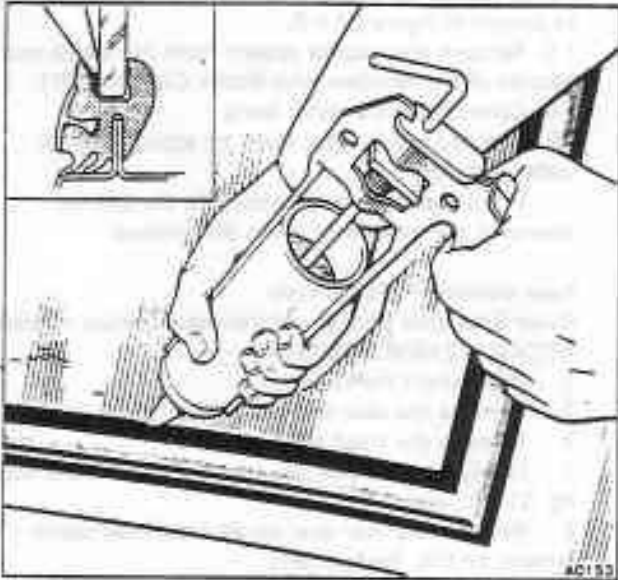

Fig. S11-8 Applying sealant between the rubber seal and the glass
12. Carefully ease back the seal and insert the nozzle of a sealant cartridge gun between the seal and the window. Then, apply a continuous bead of Arbomast Autograde Sealant or Seelastik into the glass channel as shown in figure S11-8.